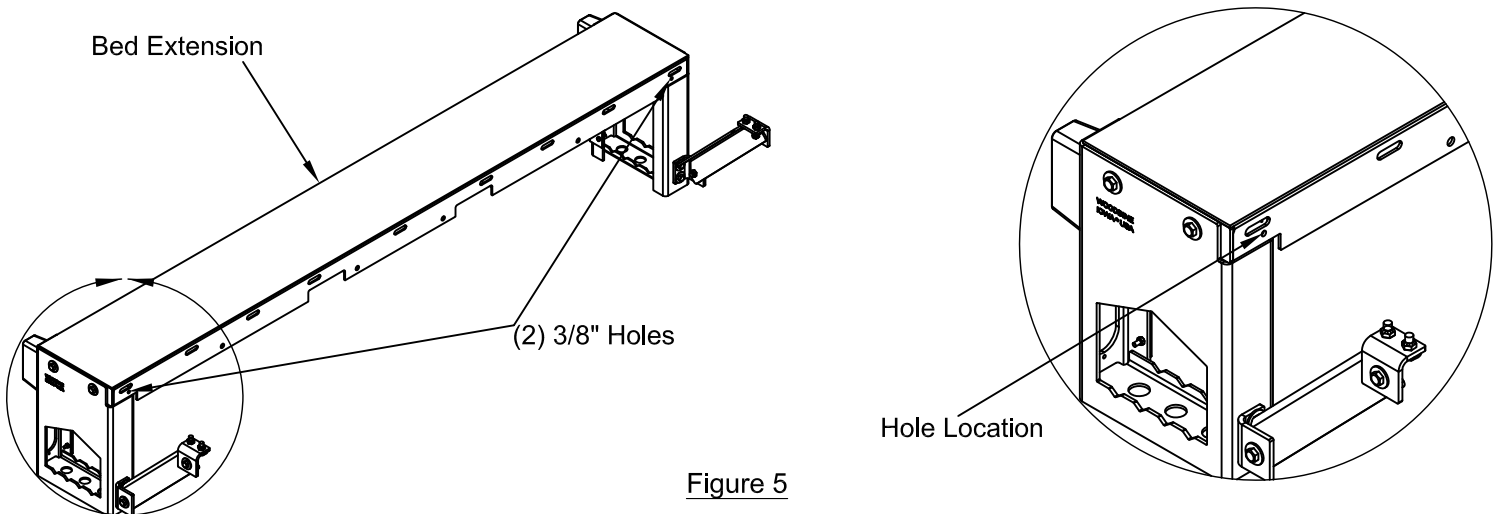

Figure 5
5. Locate two 3/8" holes in the rear of the bed extension. Use to route the truck light harness through. It might be needed to drill a new hole on the back of the truck (Figure 5).